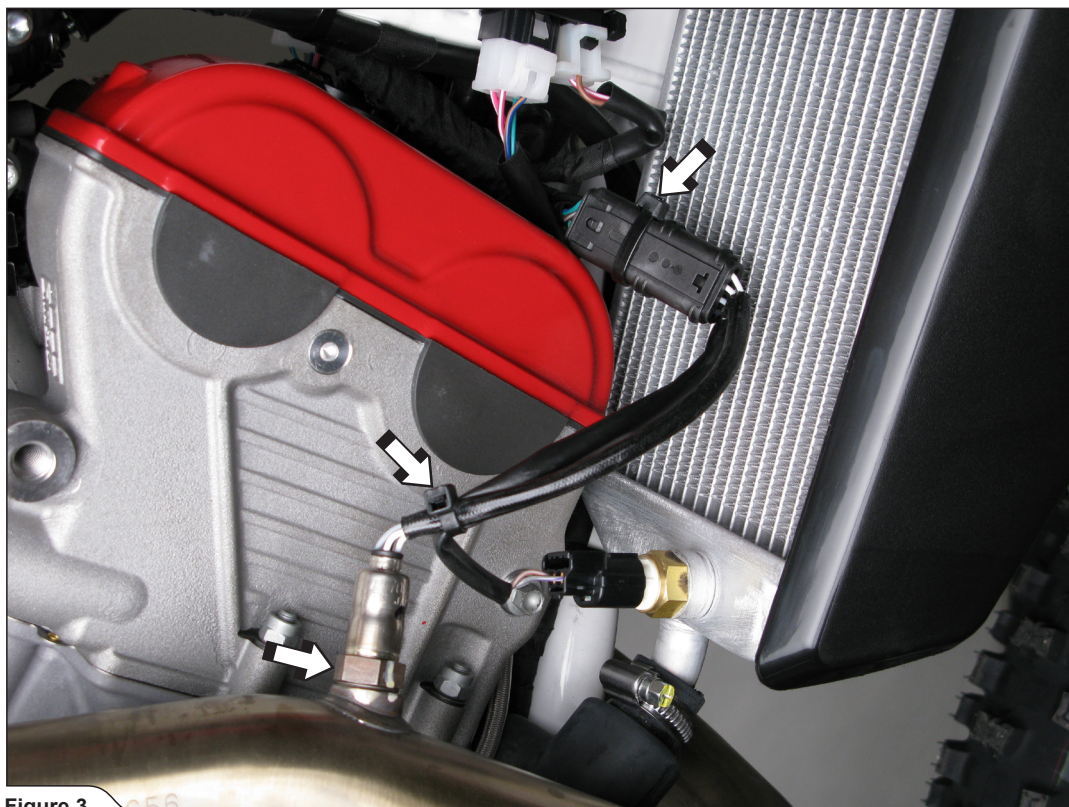

Figure 3
4. Cut off the two marked plastic tie wraps, disconnect the lambda sensor's connector and unscrew the lambda sensor out of the header tube (**Figure 3**).